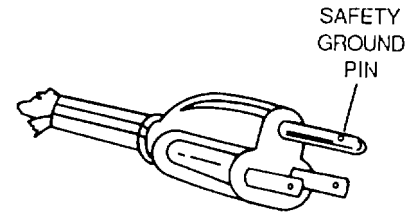

Figure 6-1. Three-Prong Grounded Plug
h. If the power cord has a ground pin as shown in figure 6-1, do not attempt to use it with an adapter. The ground pin serves to decrease the possibility of electric shock.